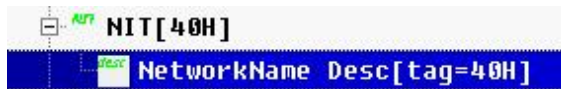

figure3-37
- 9、repeat to operate from figure3-37 to figure3-43, such as3-44